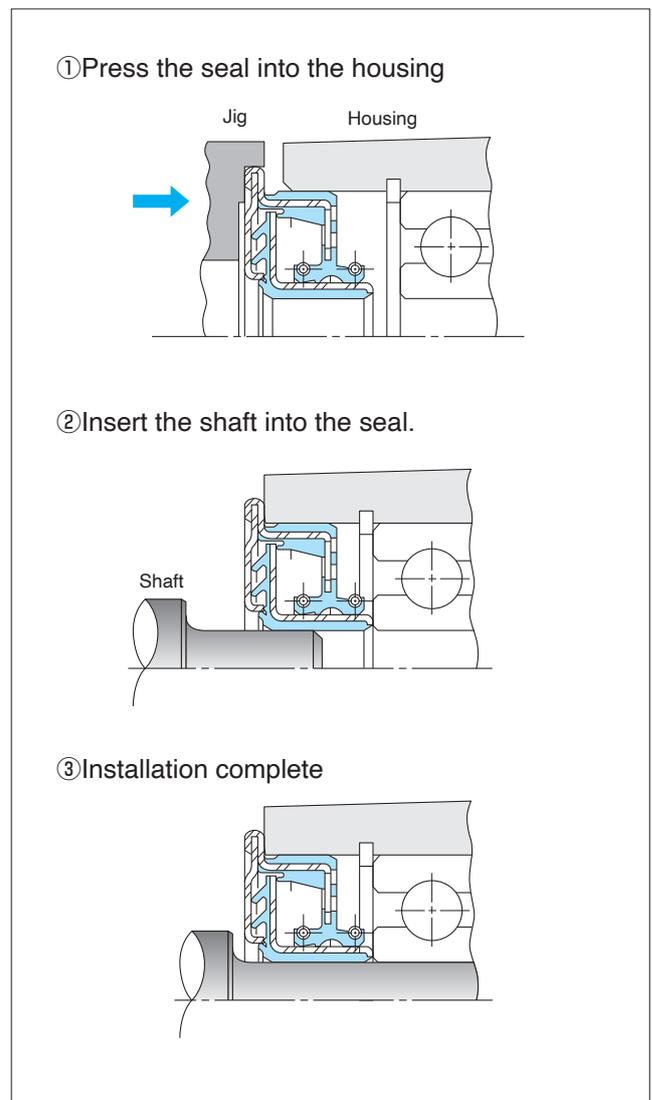

Fig. 7-15 Mounting a QLFY Type Seal
- 1 Use a jig as illustrated in Fig. 7-15 to press the QLFY seal into the housing bore.